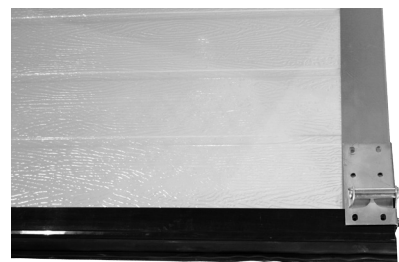

FIGURE 4.1.B
**4.1.B** Find the bottom section with the weather strip retainer fastened to one edge. The weather-strip is on the bottom edge of the bottom section. Place the bottom section on sawhorses facing down. Be sure to cover sawhorses with carpet or cloth so as not to scratch the bottom section. Install lower weather strips (U) using self-tapping screws (Figure 4.1.B).